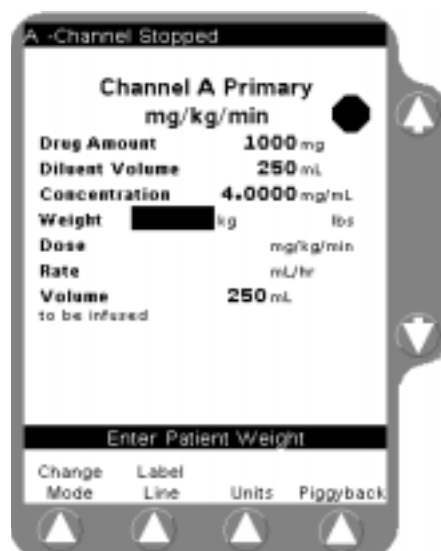

Figure 5-20 Enter Weight
6. Highlight the **Weight** field and enter the patient's weight using the numeric keypad (Figure 5-20).